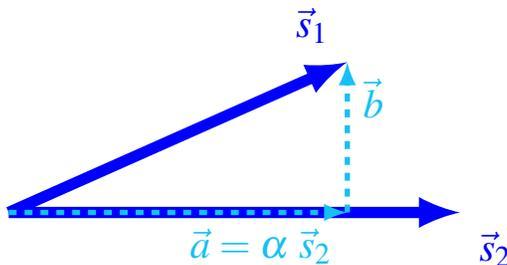

Figure 16: 2D figure of $\vec{s}_1 = \vec{a} + \vec{b}$.
- (e) (4 points) It appears that making codes orthogonal to each other improves the robustness of our Acoustic Positioning System. Knowing this, we want to use our knowledge of projections to write our first code as $\vec{s}_1 = \vec{a} + \vec{b}$, where $\langle \vec{b}, \vec{s}_2 \rangle = 0$ and $\vec{a} = \alpha \vec{s}_2$ (for some constant α) as illustrated in Figure 16. **Compute α and \vec{b} in terms of \vec{s}_1 and \vec{s}_2 . Show your work and justify your answer.**